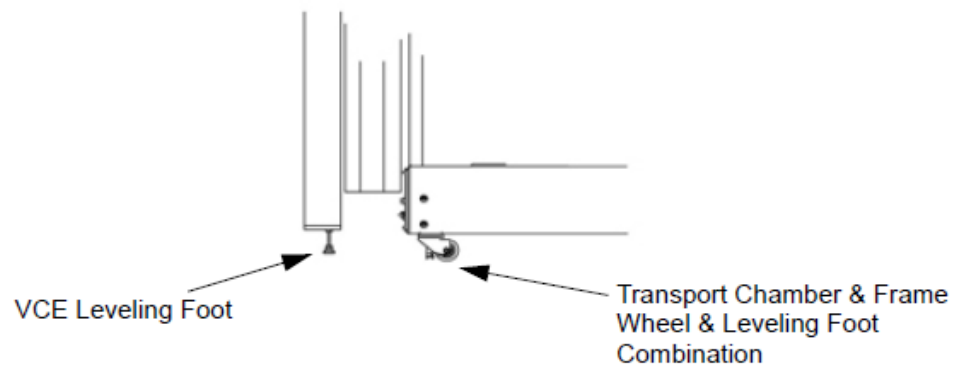

Figure 3-2: Lowering the Combination Leveling Feet
2.	Lower each of the four leveling feet (on the back of each wheel) on the VBE until it just touches the floor and then hand tighten it. Refer to Figure 3-2 .